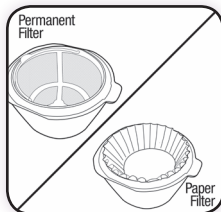

Figure 13
- 4 Place 10-12 cup basket-style paper filter or Reusable Filter in Removable Filter Basket (Figure 13) **Note:** The Removable Filter Basket can remain in the Front Loading Brew Basket door.